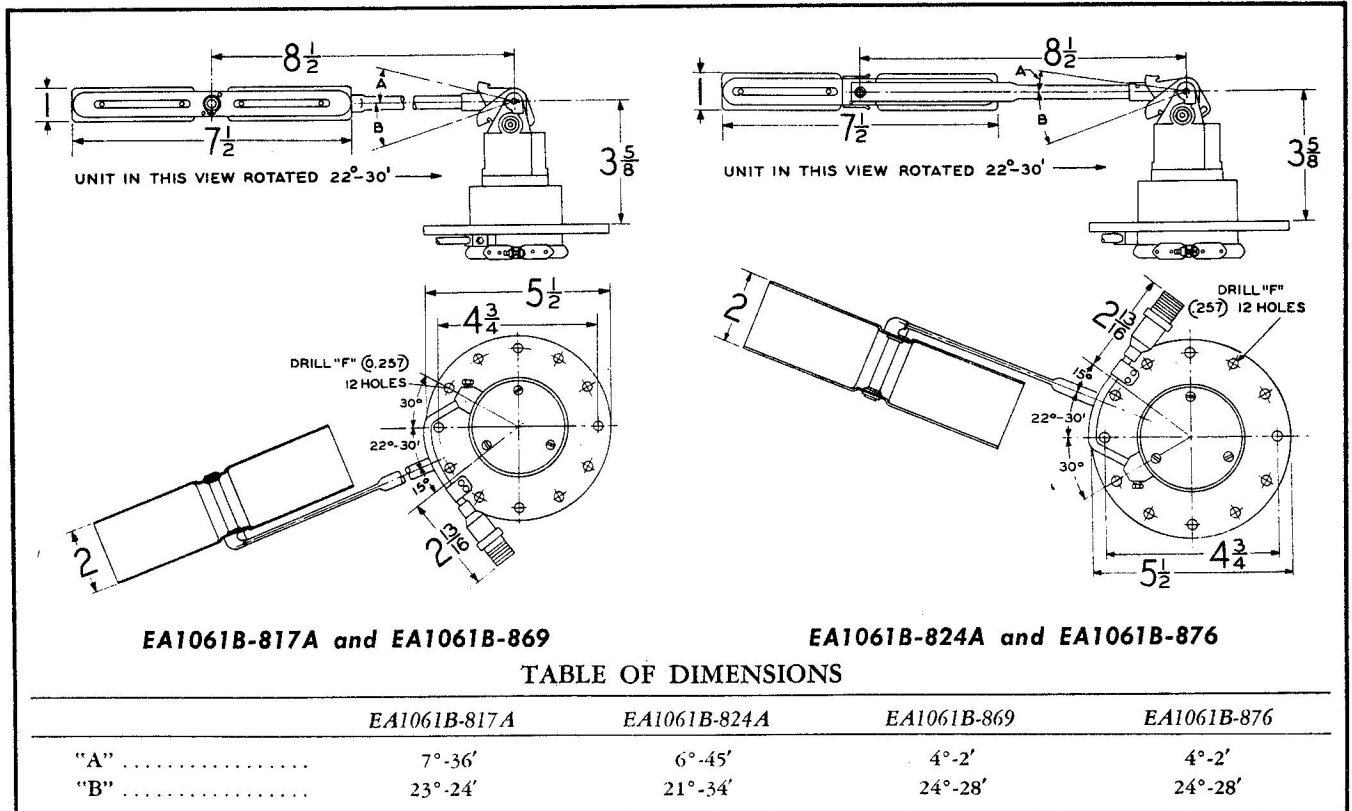
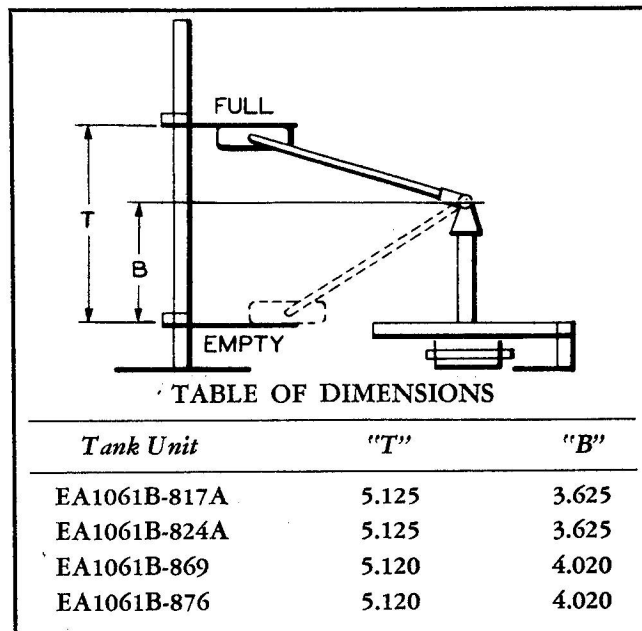

Figure 4-249. General Dimensions
Figure 4-253. Set-Up Stand Diagram
Dimensions	see figure 4-249
Items 64 thru 71. Assemble conduit assembly by following general dimensions drawing, figure 4-249, for the specific tank unit.
Align float arm (57) and float assembly (25) to correspond to general dimension drawing, figure 4-249, for the specific tank unit.
3-5, 3-6, 3-8 and 3-9, using dimensions given in figure 4-253. Also check length of float arm against dimension given in figure 4-249.
a. With tank unit in a set-up stand adjusted to dimensions given in figure 4-253, connect a Kelvin Wheatstone Resistance Bridge (No. 638R, Shallcross Manufacturing Co., Collingdale, Pa., or equivalent) across pins A and B of tank unit electrical receptacle.